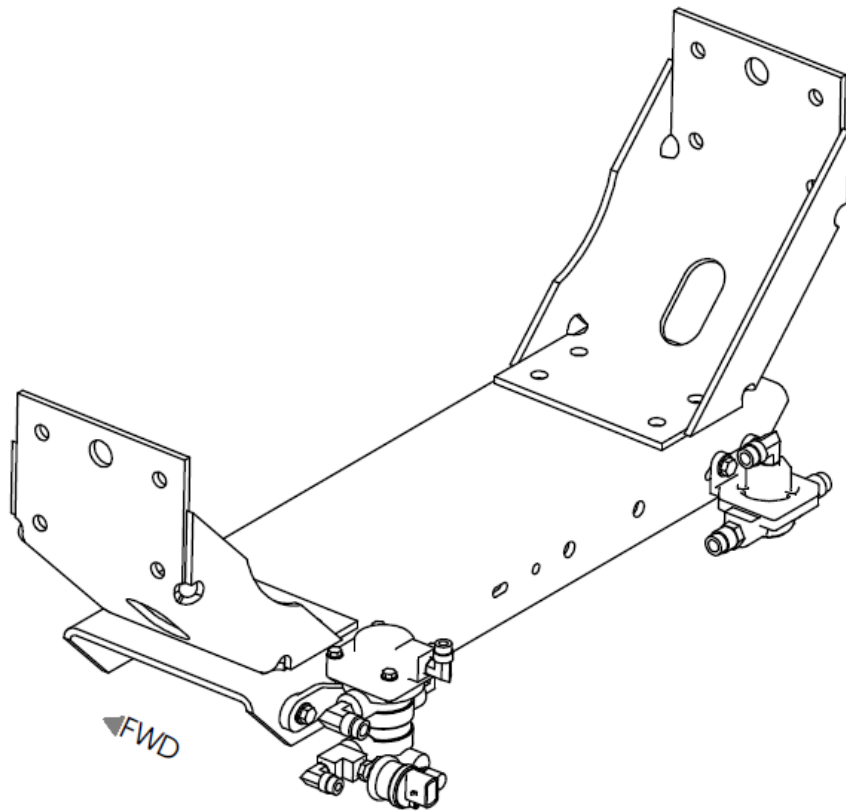

Figure 3.1
4. Locate quick release valve located on front steering cross member. *See Figure 3.1*